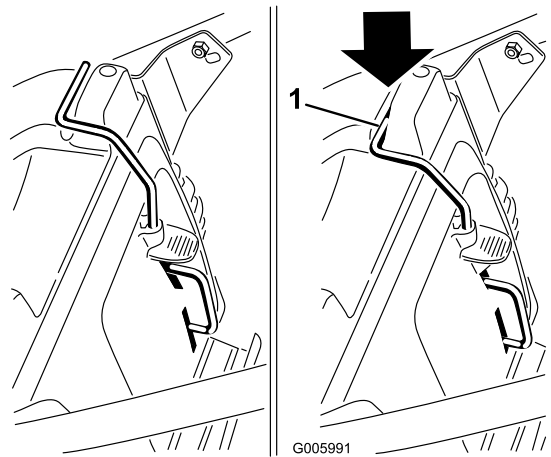

Figure 17
1. Install the rear-discharge plug (Figure 17) or the grass bag (Figure 18) on the machine.